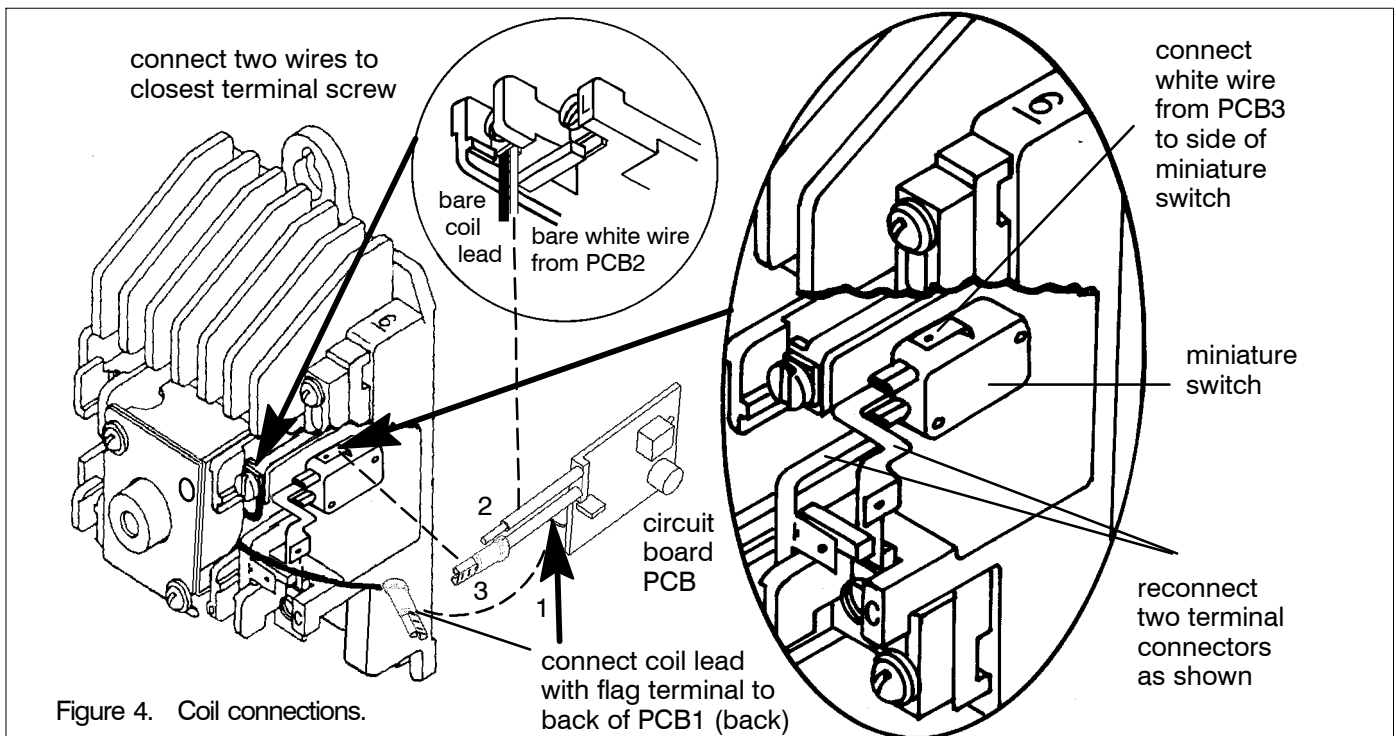

Figure 4. Coil connections.
3. Connect new coil and new PCB board wires. Figure 4. Connect the black coil lead with flag lug to the push-on terminal on the back of the circuit board (PCB 1). Connect two wires to the closest top screw terminal (under the plate): the other black coil lead (bare) and the white wire from PCB 2. Connect the white wire with flag terminal from PCB 3 to the new miniature switch (right side).